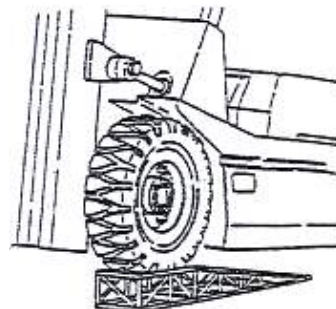

Fig. 2-72
6.5.4 Replacement of Contact Roller for Mast (Fig. 2-72)